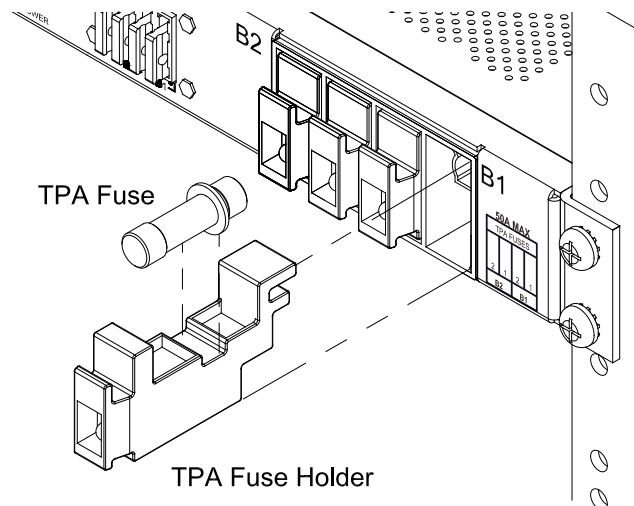

Figure 10 - Installing TPA Fuses
28. Make sure load devices are disabled and then install fuses by pulling out fuse carrier and inserting operable fuse, as shown in Figure 10.